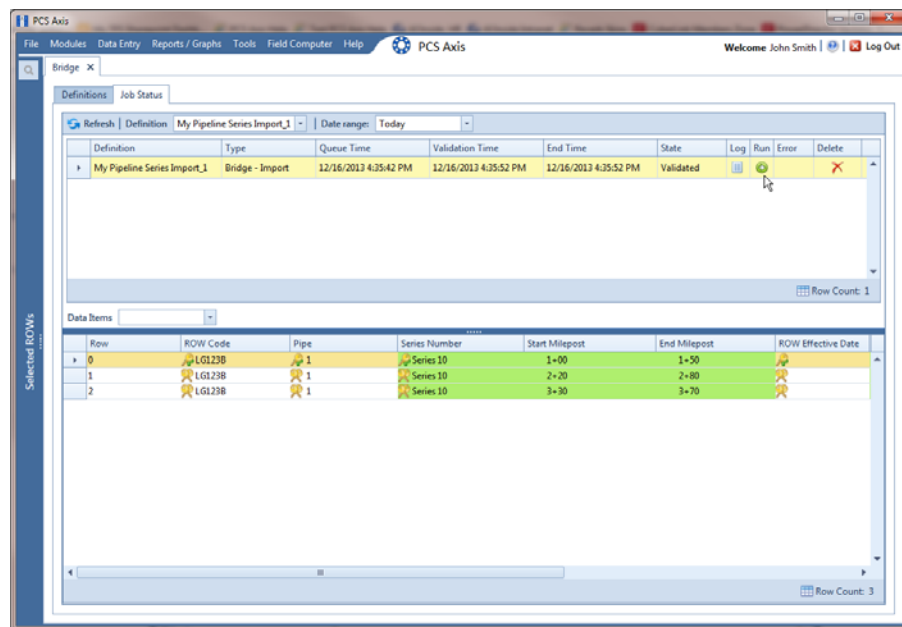

Figure 10-55. Job Status
- a If the *Job Status* window is open, click  **Run** for a selected import file listed in the *Job Status* window (Figure 10-55). Then click  **Refresh** to update status information.